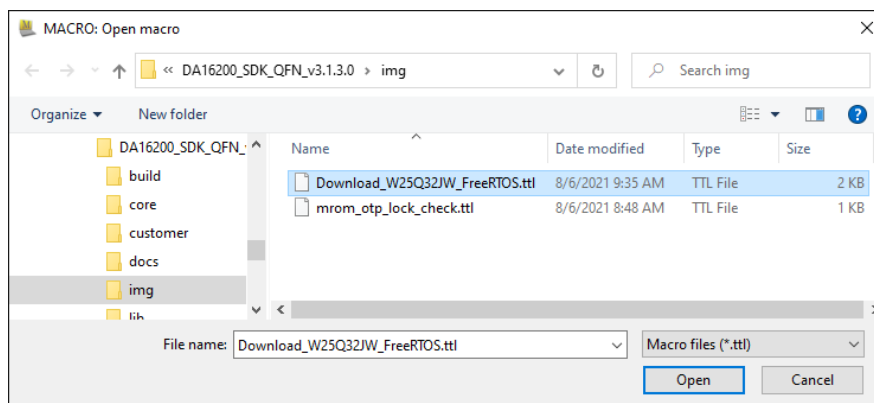

Figure 5: Open Macro File
2. When the **MACRO: Open Macro** file selection window opens, navigate to the directory where the firmware images are stored and select the **.ttl** file as Figure 5.